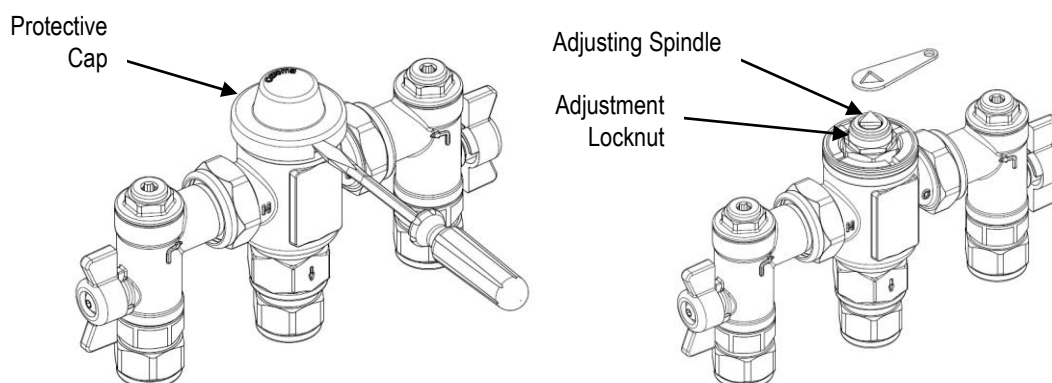

Figure 8: Adjusting the Mixed Water Temperature
1. Using a small, flat bladed screwdriver, carefully lever the Protective Cap off the Valve (figure 8)